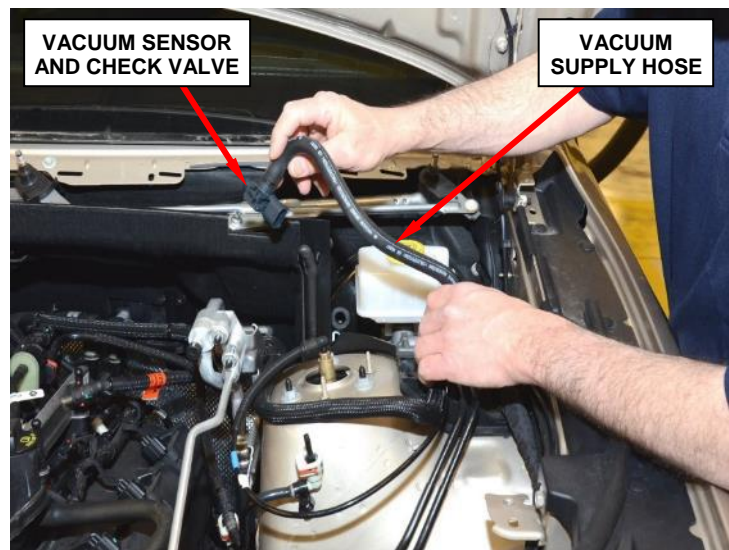

Figure 18 - Brake Booster Check Valve
8. Disconnect the vacuum hose and check valve from the brake booster (Figure 18).
24. Connect the brake booster check valve and vacuum hose (Figure 18).
10. Disconnect the vacuum hose and check valve from the brake booster (Figure 18).
32. Connect the brake booster check valve and vacuum hose (Figure 18).